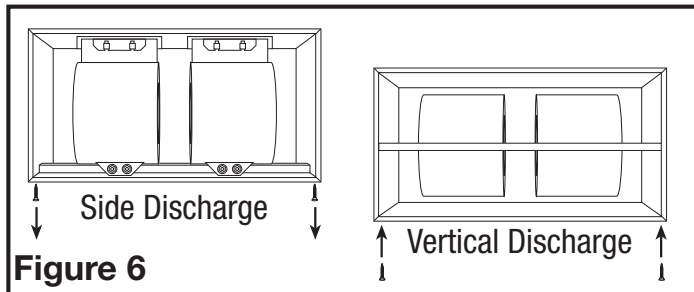

Figure 6
- To convert unit for vertical discharge, remove 9 screws holding the side access panel in place. Turn unit 90° and reinstall panel. Make sure the grill screw hole in the panel is facing up (Figure 6).